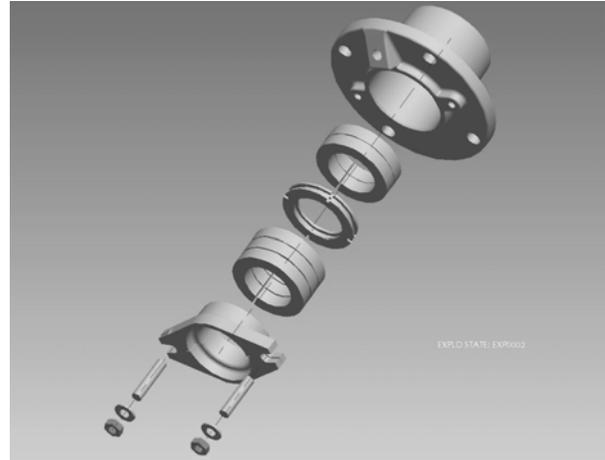

Figure 46: Exploded View of Stuffing Box with Lantern Ring
8. Assemble the glands, studs, washers, and nuts square with the stuffing box and pull up tight. (See Figure 46 of an exploded assembly.)
1. Install the lip seal into the bearing cap bore. The lip seal should sit against the bottom of the machined bore. The lip should face away from the bearing cavity. Install the bearing cap onto the shaft. (See Figure 46.)